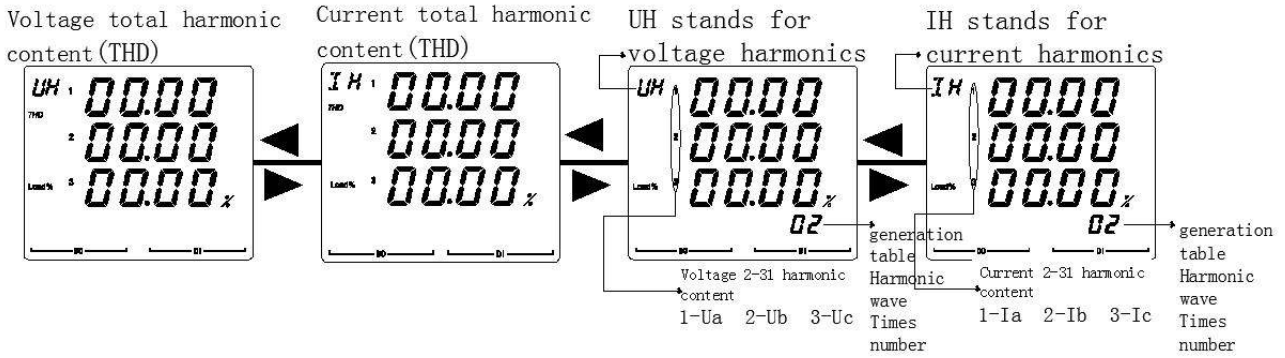

Figure 15.
5.2.5 View the harmonic parameters of the AMC72L/96L meter as shown in Figure 15.